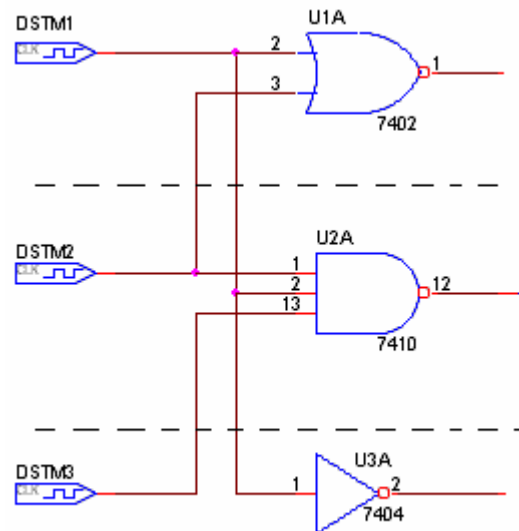

Figure A-4
- Create the following circuit (figure A-4) in PSpice.